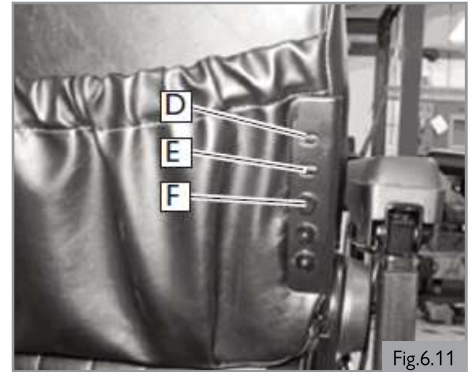

Fig.6.11
- Position 2 (+2) (D)
- Position 1 (+1) (E)
- Position 0 (default) (F)
2. Position the backrest at the desired height. The top screw should be mounted as shown. (Fig. 6.11)